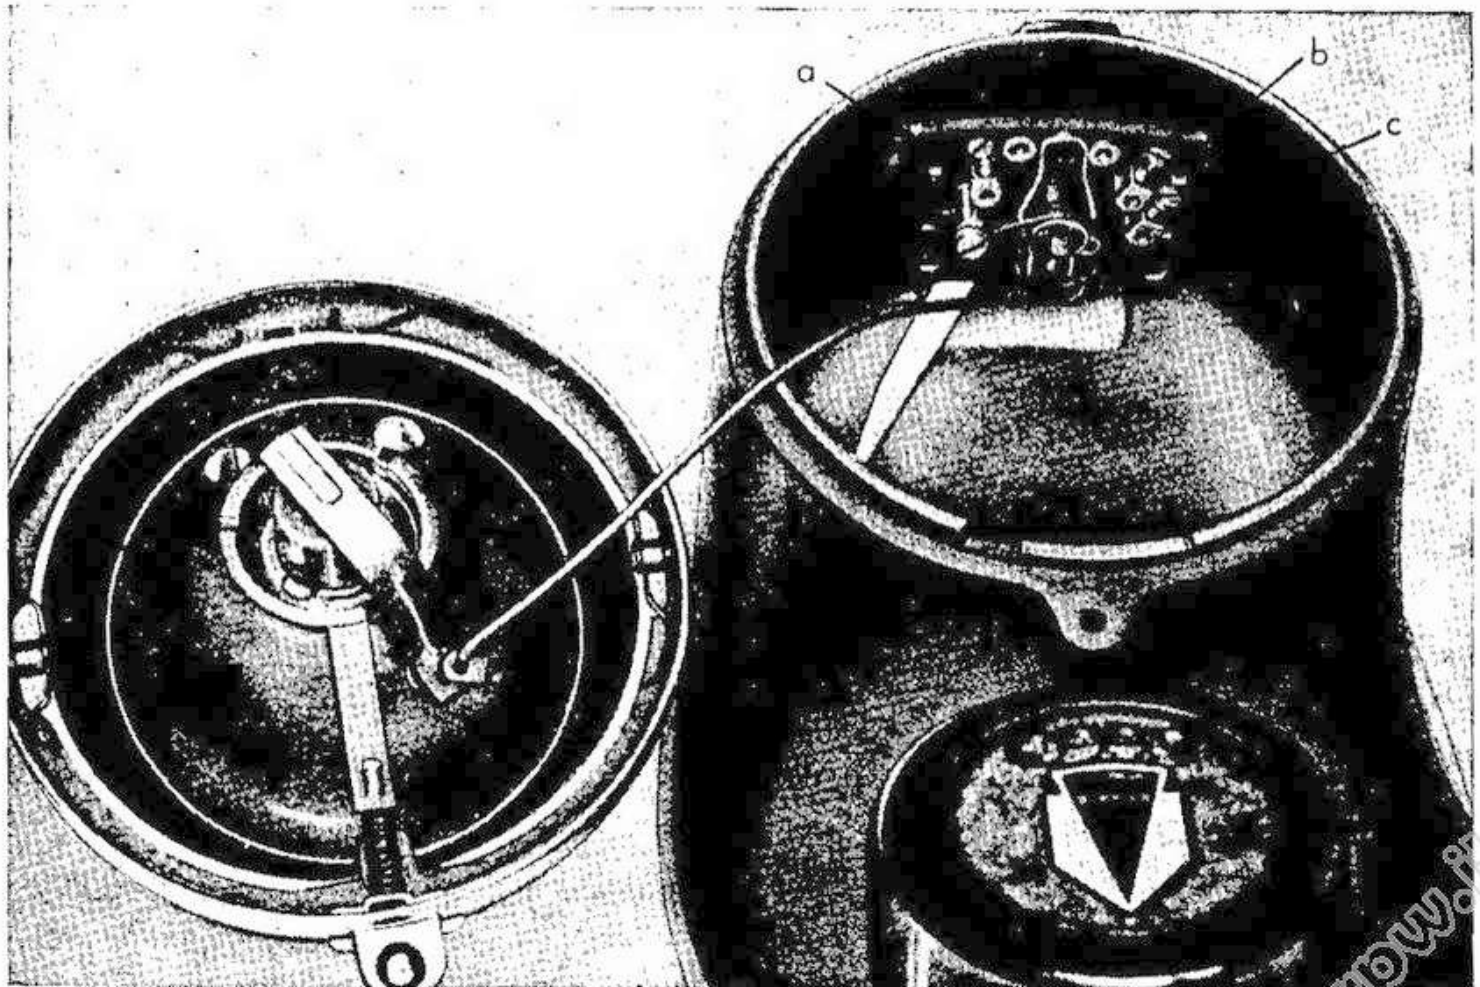

Fig. 98 View of headlamp interior
4. Disconnect the red light cable 'a' (Fig. 98 page 84) and the green tail lamp cable 'c' from the light switch and remove the cable from the headlamp housing.